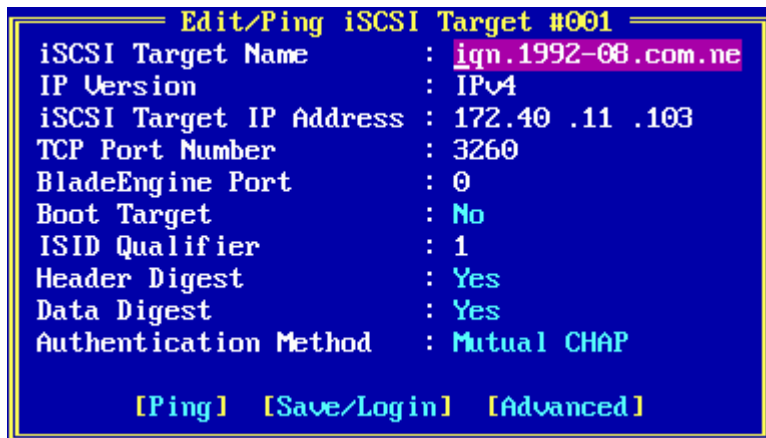

Figure 9-6 Edit/Ping iSCSI Target Dialog Box
3. From the Add/Ping iSCSI Target dialog box (Figure 9-2) or the Edit/Ping iSCSI Target dialog box (Figure 9-6), select **Ping** and press <Enter>.